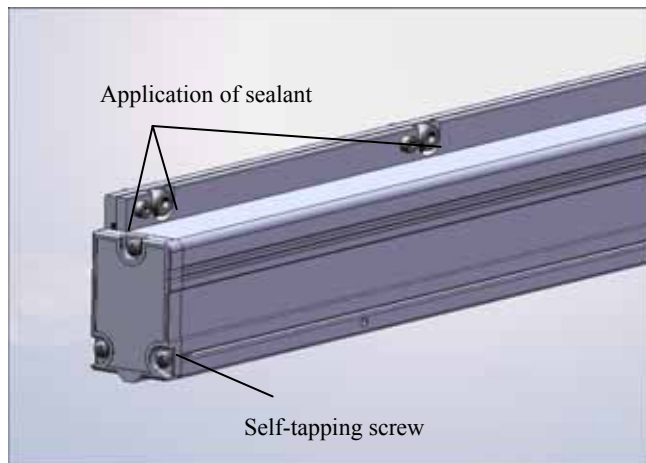

Fig. 5.16 Application of sealant
**(11) Installation of covers of both ends:** Apply some sealant before fixing the end covers. Apply sealant on the exposed position of the  $\Phi 2$  sealing strip, so as to ensure a good sealing effect as shown in Fig. 5.16.